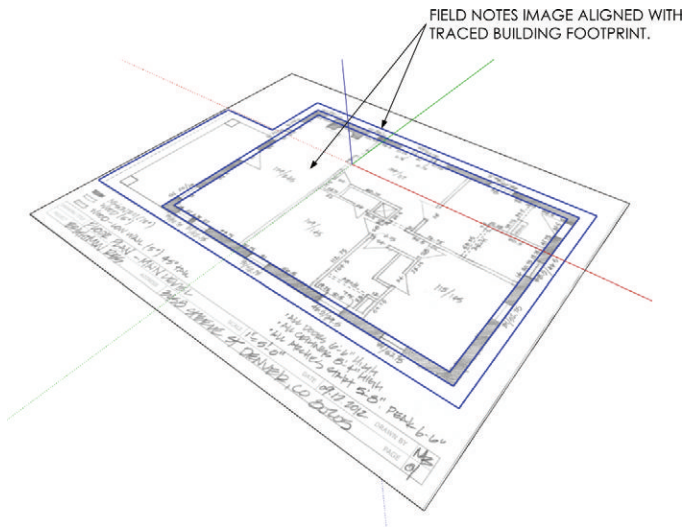

Figure 17.24 Align the properly scaled field notes drawing with the traced building outline.
7. Perform a precise move to align the field notes drawing with the original building footprint sketch (Figure 17.24).